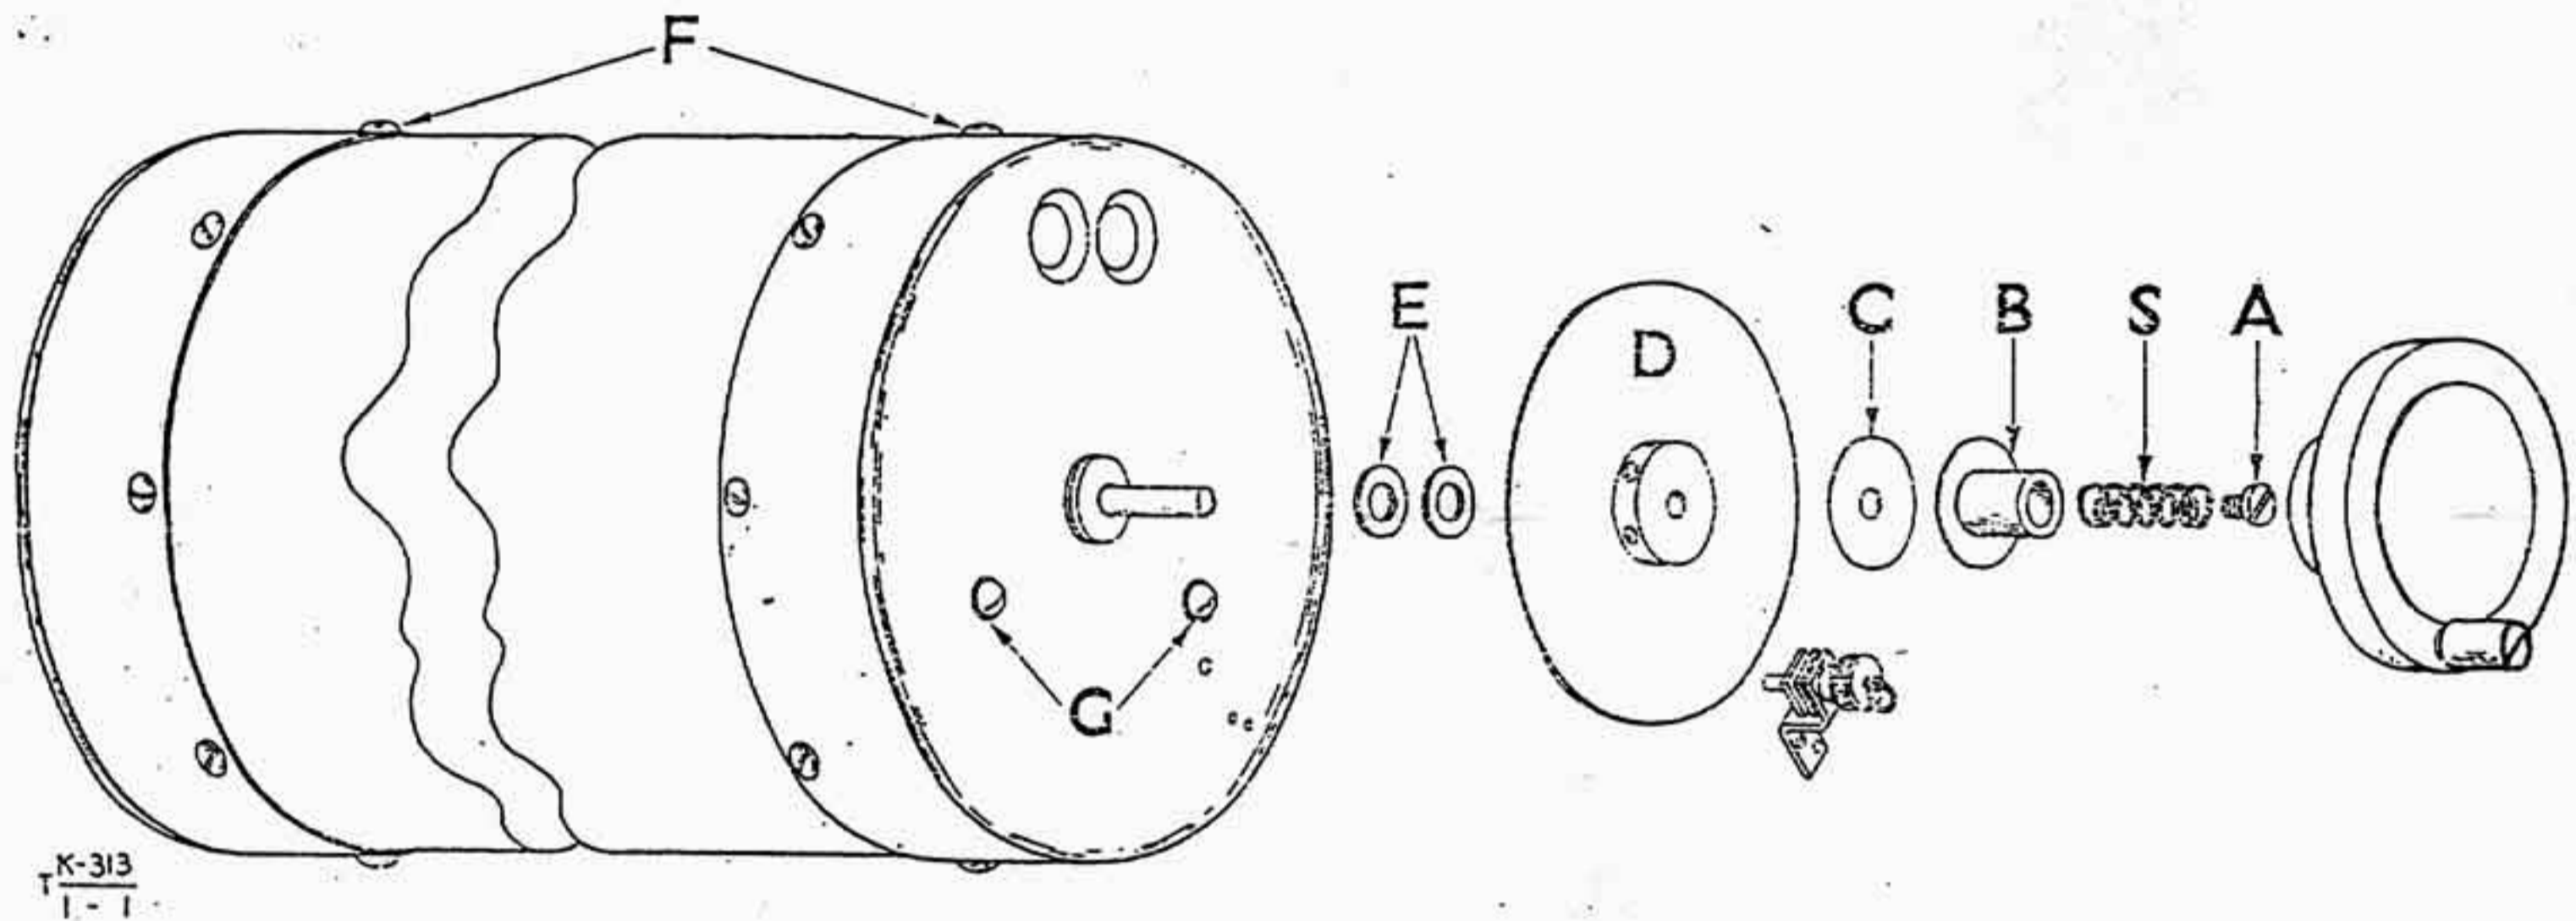

Fig. 1—Aerial tuning inductance
4. To clean and inspect the inductance study Fig. 1 in conjunction with the following:—